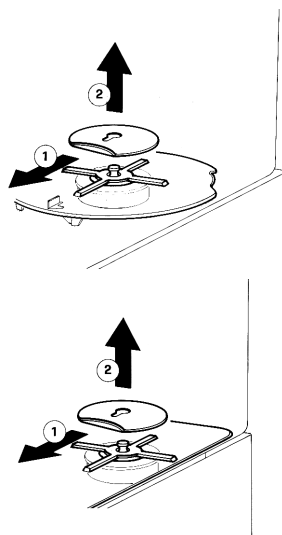

figure 1
- 2 - Uncouple (1) the pump cover retainer and
lift it up and out (2) (see figure 1).